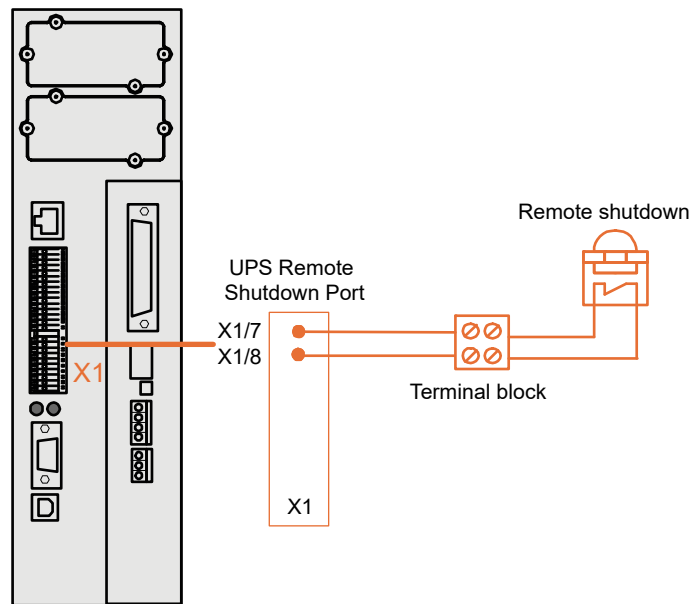

Figure 7.1 Remote shut down cabling
2. Connect the cable as shown in Figure 7.1.